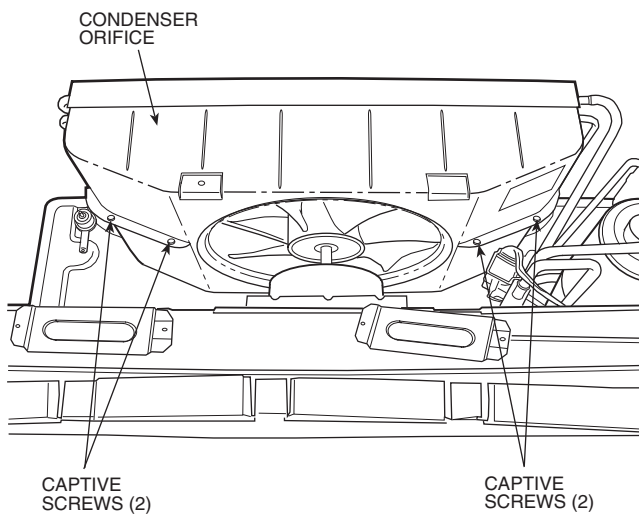

FIGURE 13 — LOCATION OF CAPTIVE SCREWS ON CONDENSER ORIFICE
- a. Unscrew the top half of the condenser orifice by backing off the 4 captive screws. See Figure 13.